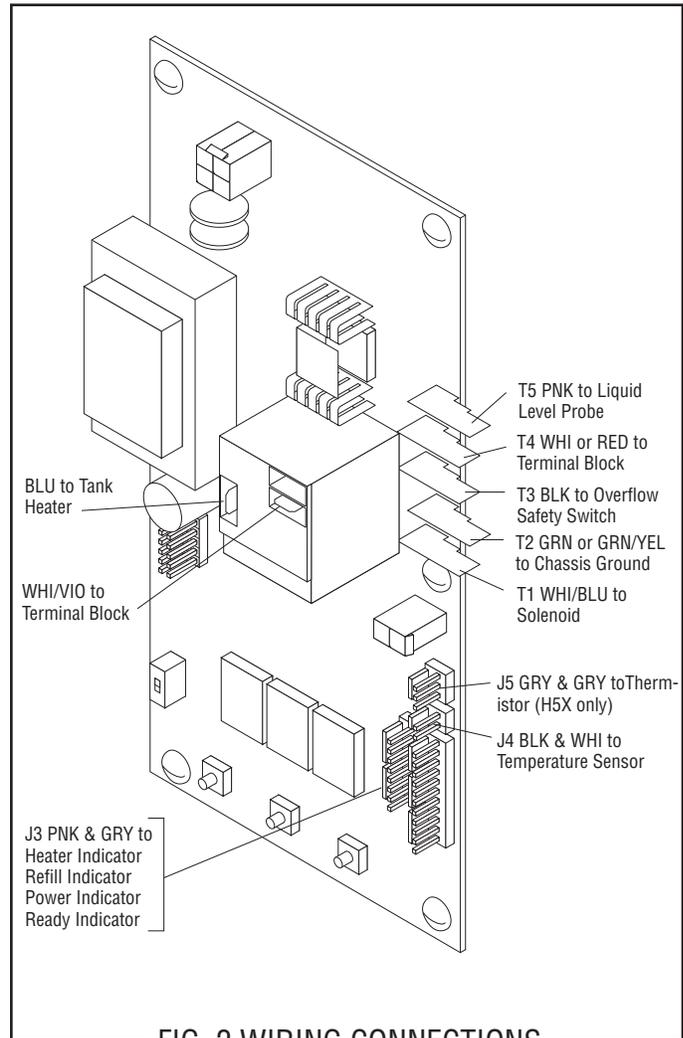

FIG. 2 WIRING CONNECTIONS
6. Refer to Fig 2 when reconnecting the wires.